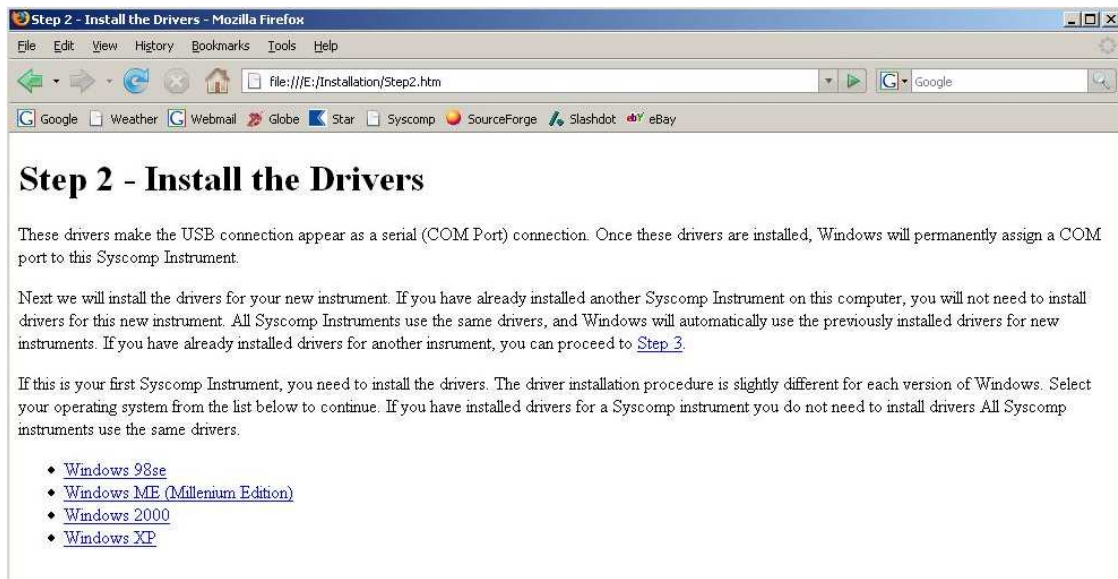

Figure 39: Step 2: Install the Drivers
9. Click on Next. The screen of figure 39 appears.